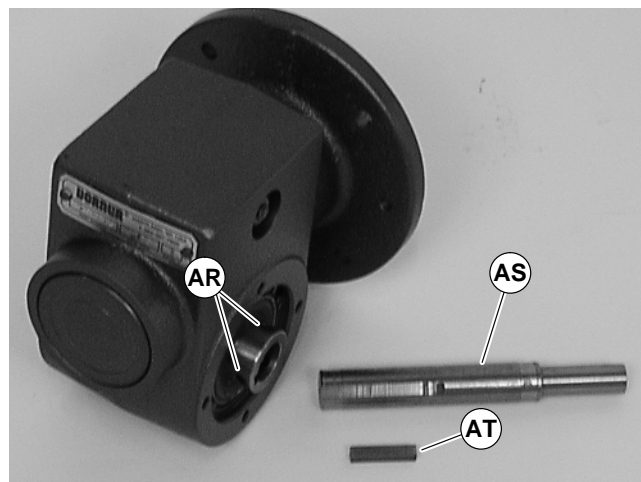

Figure 24
9. Remove two (2) screws (AO) and detach output shaft cover (AP).
10. Remove gear reducer output shaft key (AQ).
11. Loosen six (6) set screws (AR of Figure 24). Remove drive shaft (AS) and key (AT).
13. Replace the original shaft components into new gear reducer (see Figure 24). Tighten set screws (AR) to 26 in-lb (3 Nm).